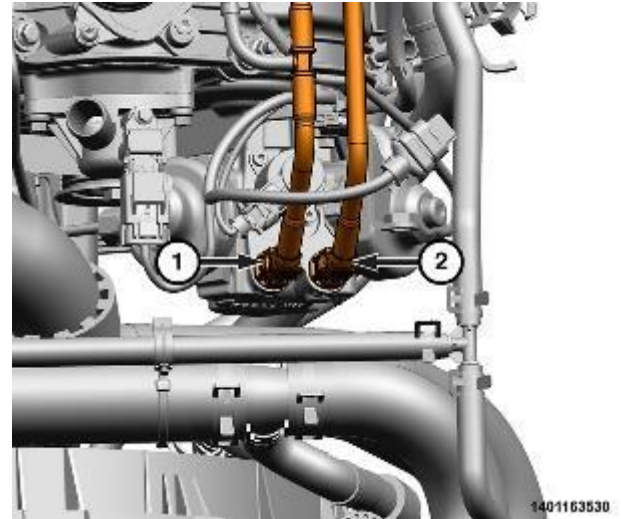

Figure 180 – Low Pressure Lines
- 15. Disconnect the low-pressure supply (2) and low pressure return lines (1) from the fuel injection pump (Figure 180).